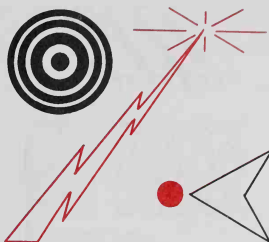

Fig. 2-6. Emphasis is brought out through shape, color, or decorations.
7. **Emphasis.** The design is given a point of interest. A certain part of the object may stand out through the use of color, its shape or the way it is decorated, Fig. 2-6.